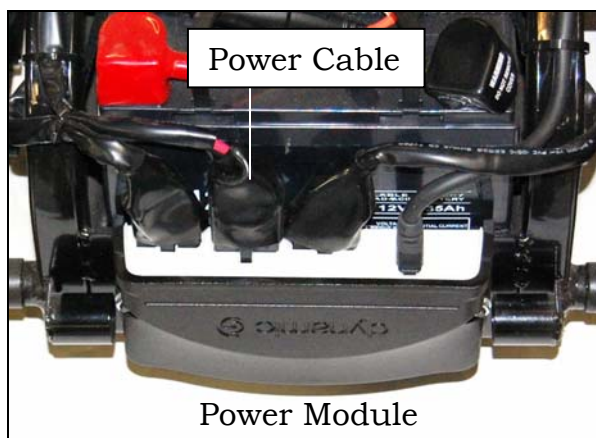

Figure 1
2. Plug the power cable into the Linx power module. See figure 1 on page 13.